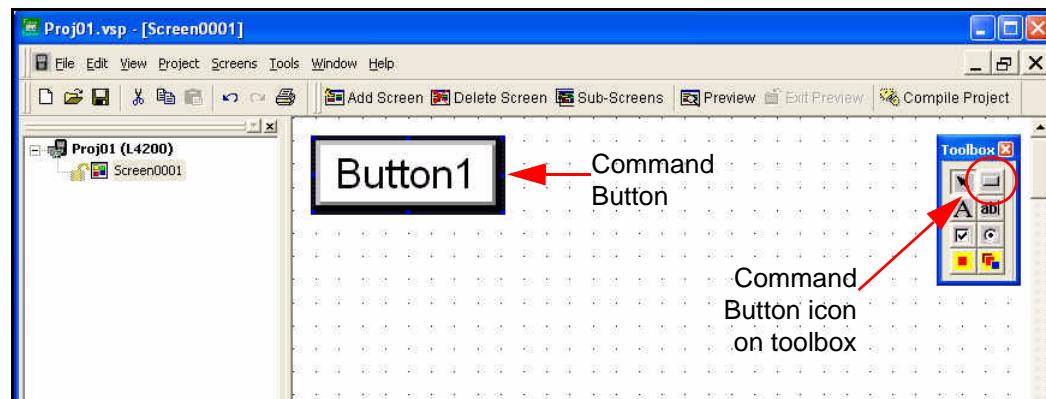

Figure 2-15 Command Button
2. Click the **Command Button** icon on the toolbox as shown in Figure 2-15.